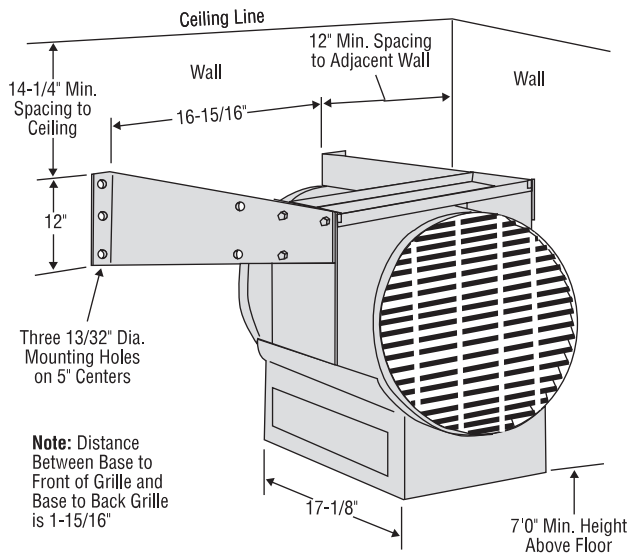

Figure 1
Keep at least 5' clearance in front of the heater. Refer to Figures 1 and 2 for side, top and back clearance requirements.
- C. In either case, the minimum mounting height is 7 feet from floor to bottom of heater. (See Figures 1 and 2.)